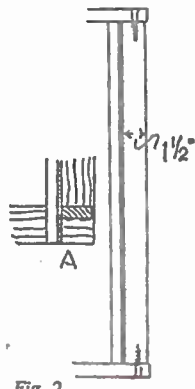

Fig. 2
Cut a piece of 1/4in. plywood, large enough to cover the vertical stand on the outside. Fix this on with glue and panel pins. From 1in. thick wood, 1 1/4ins. wide, cut two pieces long enough to extend from base to top. Screw these in place through the base and top frames, as at Fig. 2, and also through the vertical stand's sides. Position at 2ins. in from each side edge, as shown in detail (A) Fig. 2.